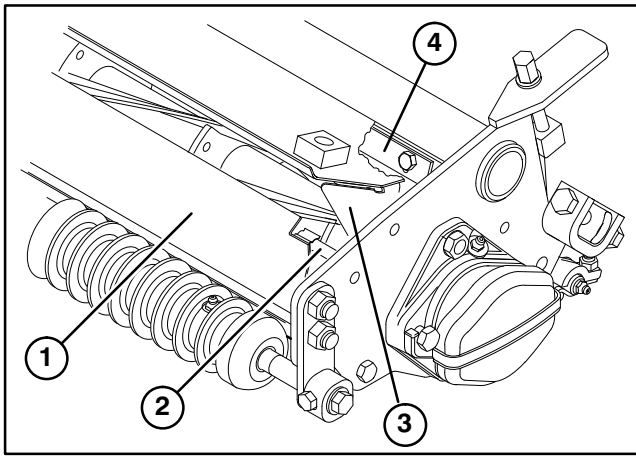

Figure 3
- Modify cutting unit shields (Fig. 3) as follows: